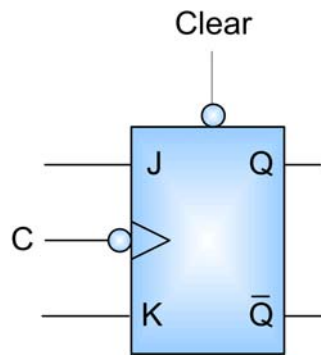

Figure 8: Negative-edge-triggered JK Flip-Flop with Asynchronous Clear
- Figure 8 shows the graphical symbol of a negative-edge-triggered JK-flip-flop with a direct clear.